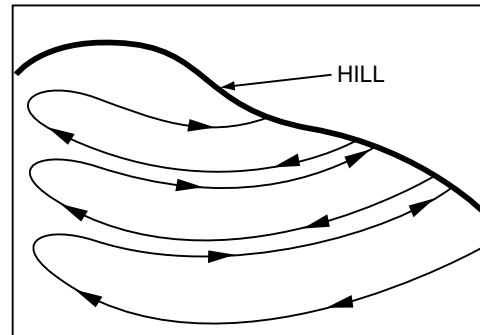

Figure 16-8
- WARNING!** Never mow on any slope greater than 15 degrees. Always mow across the face of slopes; never up and down or diagonally (see figure 16-8). DO NOT attempt sudden starts or stop when mowing on a slope. Avoid sudden turns and use extreme caution when changing direction on a slope.